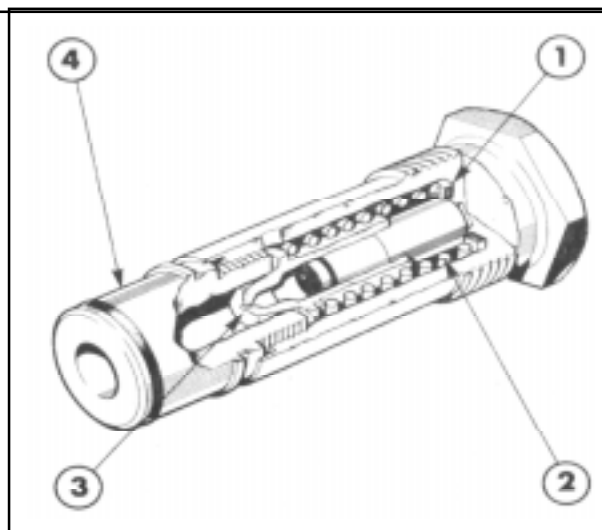

Figure 9
- (iii) Extract the pressure relief valve, Figure 9.